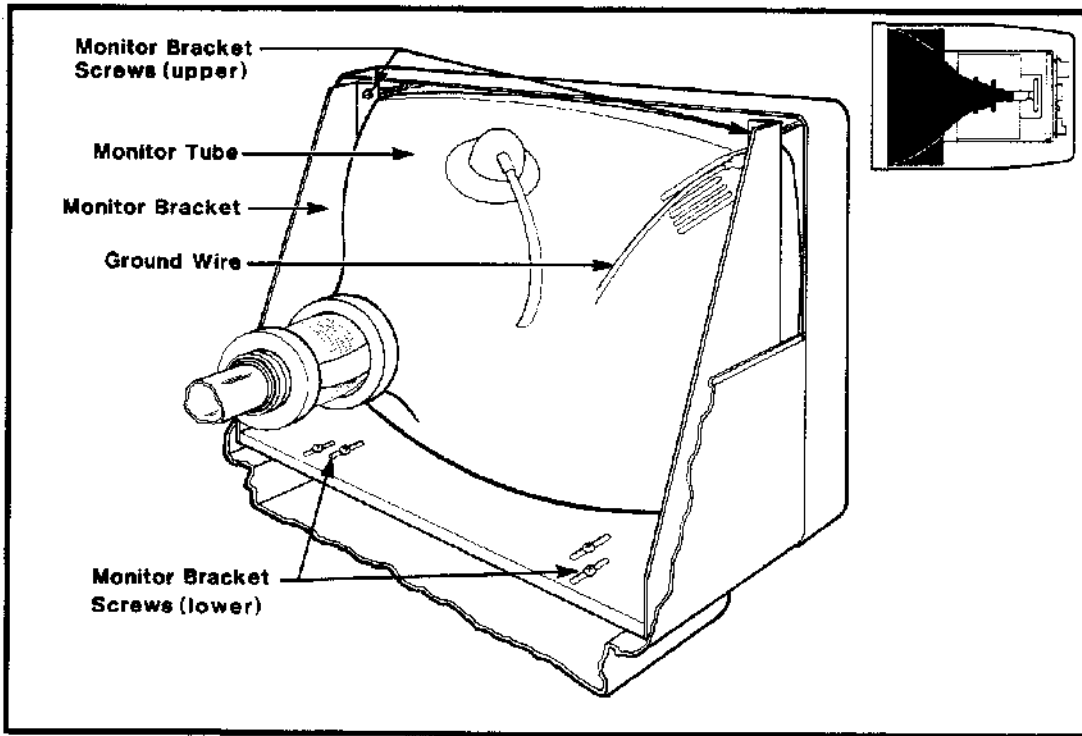

Figure 6-8: REMOVING THE C-5 VIDEO TUBE ASSEMBLY
5. Disconnect the black grounding wire (Figure 6-8). You will find it connected either to the upper left corner of the video tube or to the video tube support bracket below.
6. Remove the four Phillips screws securing the video tube support bracket to the C-5 chassis (Figure 6-8).